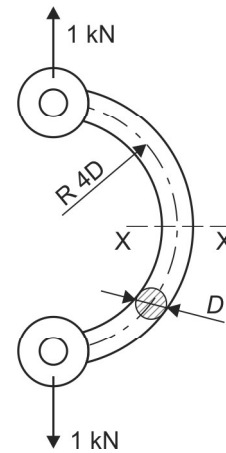

Fig. M1.14
26. Determine the dimensions of the curved bar as shown in Fig. M1.14. Assume $\sigma_{yt} = 400 \text{ N/mm}^2$ and FOS = 3.5. (12 Marks)